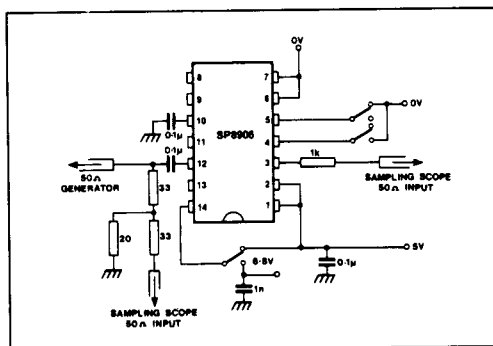

Fig. 6 Test circuit
- 2 The test configuration for dynamic testing is shown in Fig. 6